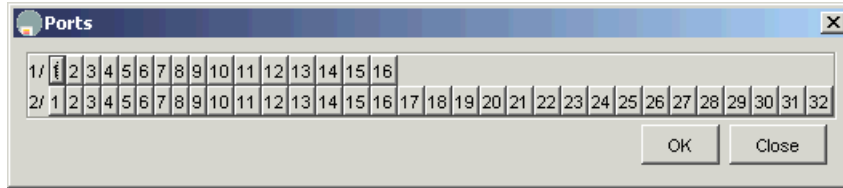

Figure 2-94 Threshold manager port selection
2. Select the ports you want to monitor by choosing the **Selected:** radio button, and clicking the ... button on the right side. When you click the button, you will see a selection window as shown in Figure 2-94.